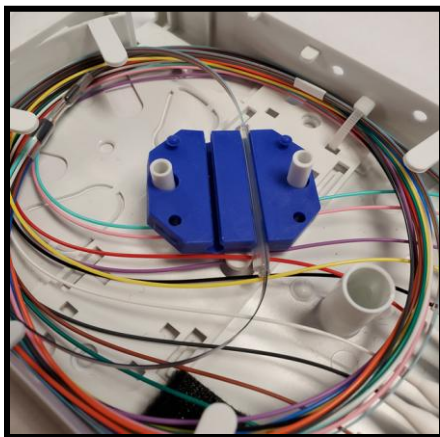

Figure 12
8.5 Strip, cleave, splice, and heat shrink the blue fiber in unit 1 of the cassette and the ribbon fiber in the blue subunit of the breakout kit according to splicer manual. Place protection sleeves (correctly sized shrinks sleeves provided with FOX cassette) in designated splice tray modules as shown in **Figure 12**.
8.7 Wrap fiber around cassette as shown in Figure 12 and use using cable ties and Velcro for organization.